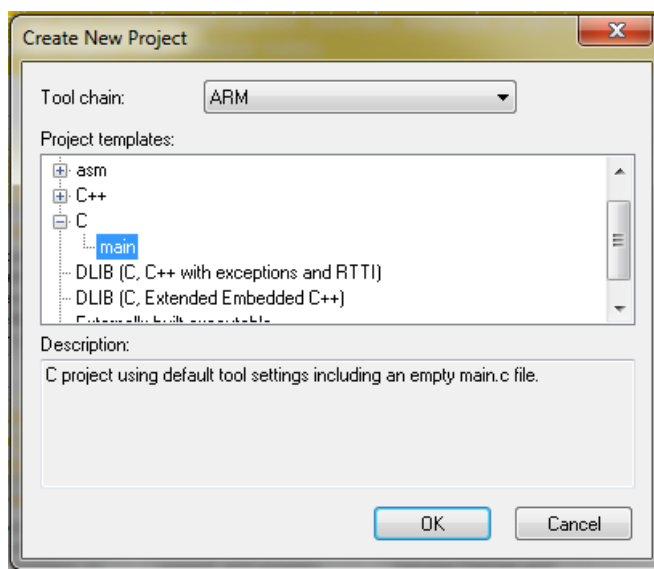

Figure 1-34. Create New Project dialog
2. In the main menu, select Project > Create New Project... so that the "Create New Project" dialog appears. See Figure 1-34.